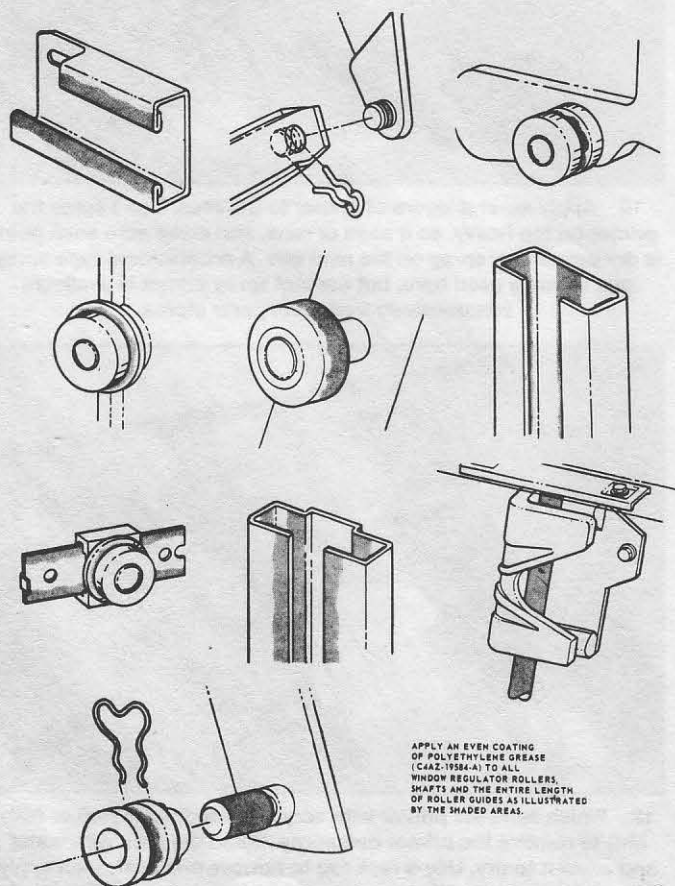

Fig. 12.12 Window regulator mechanism lubrication points (Sec 17)
- 2 Apply an even coating of polyethylene grease to the window regulator rollers, shafts and roller guides, where indicated by shaded areas (Fig. 12.12).